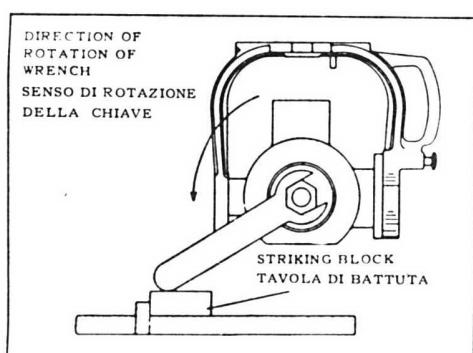

Fig. 27
4. While holding wrench on arbor nut strike end of wrench on wood block in counterclockwise direction as shown in figure at left. (Caution - Never wedge anything against fan.). (Fig. 27).
Attenzione - Non mettere mai qualcosa contro la ventola motore. (Fig. 27).